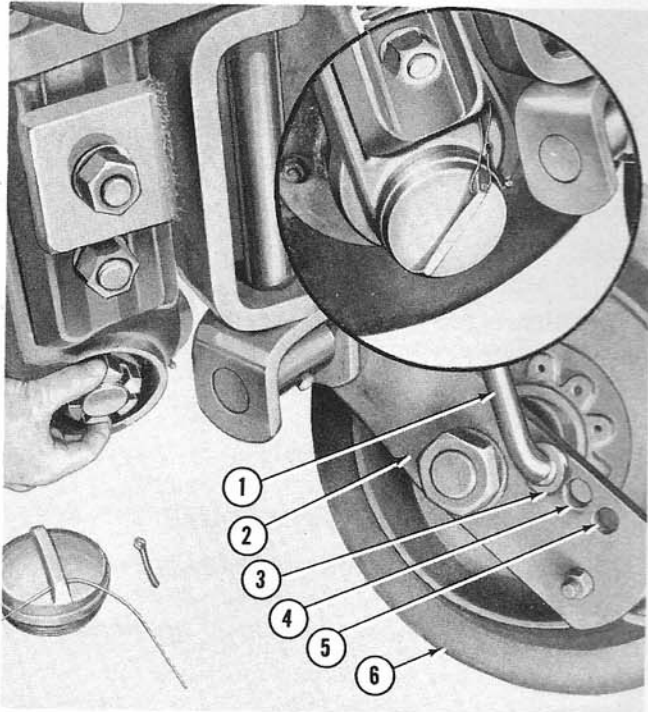
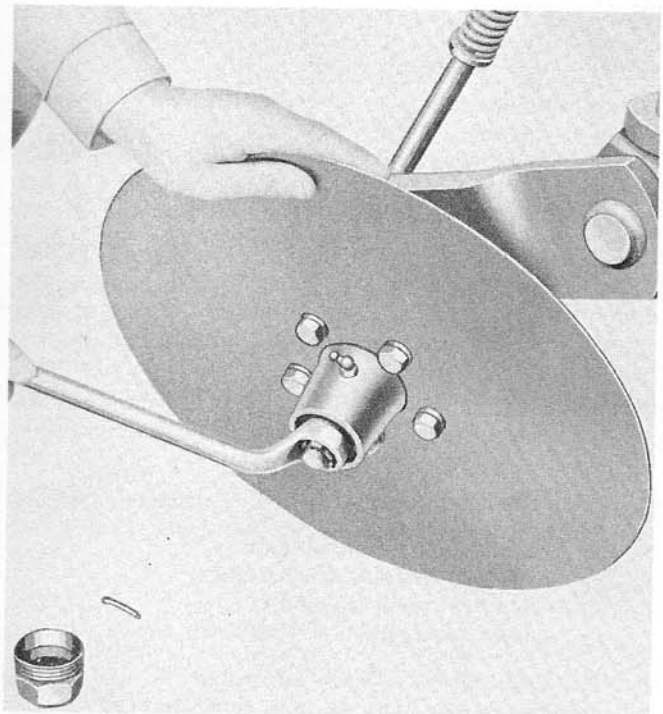

Figure 11
Figure 12
The depth adjusting rod (1), Figure 11, is provided to vary the pressure on the furrow wheel (6). The depth rod (1) should be placed in the center hole (4) on the furrow wheel arm (2) for a normal setting. With the rod set in the forward hole (3), pressure is increased on the furrow wheel. Conversely, pressure is decreased with the rod set in the rear hole (5).
**Bearing Adjustments:** The tapered bearings in the disc hub should be checked occasionally and adjusted if necessary. Remove the lock wire, dust cap, and cotter pin as shown in Figure 11. Turn the castellated nut until reasonably tight, then back it off to the first castellation. Secure the nut with the cotter pin. Replace and lock wire the dust cap as shown in the insert, Figure 11. The furrow wheel bearing adjustment is made in the same manner. See Figure 12.